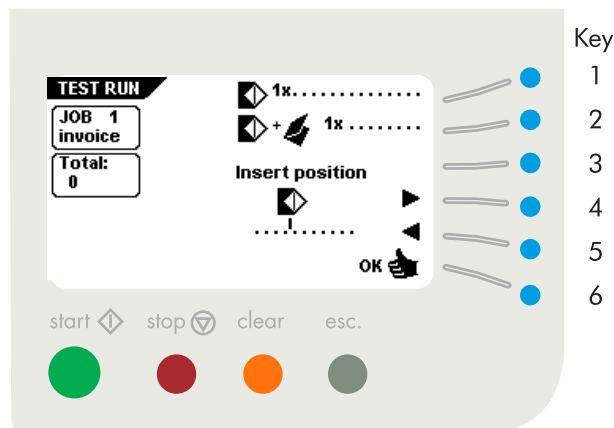

Fig. 21
Press key 3 in the "main menu (1)" to enter the "test run" menu (fig. 21). The "test run" menu shows the following functions:
- feed one envelope onto the insert table (key 1).
- make one insert (key 2).
- set the insert position (= envelop stop position) to the right (key 4).
- set the insert position to the left (key 5).
- save the insert position setting with "OK" (key 6) which will get you to the "main menu (1)".